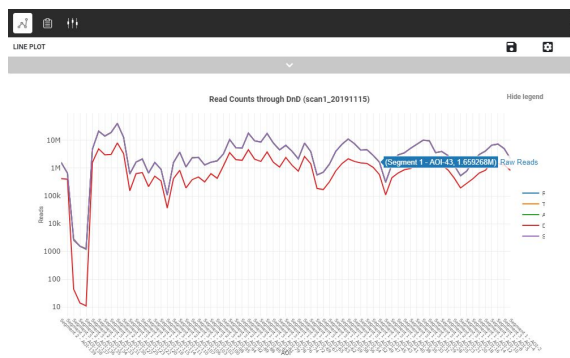

Figure 10: Line plot for NGS data
The line plot (see Figure 10) shows the **Raw reads**, **Trimmed reads**, **Stitched reads**, **Aligned reads**, and **Deduplicated reads** in Log_{10} space across all segments. For more information, see the GeoMx DSP NGS Readout User Manual (MAN-10153).
- Examine this graph for differences between the plotted lines. In general, the number of reads in all categories should be essentially the same, except for deduplicated reads. Deduplicated reads are expected to plot lower than the rest; this indicates that PCR duplicates were sequenced and that you have representative sequencing. Look for dips in the plotted lines, as this may indicate low reads and ineffective sequencing. In this example (see Figure 10), the drop in reads on the left may be due to small area ROIs.